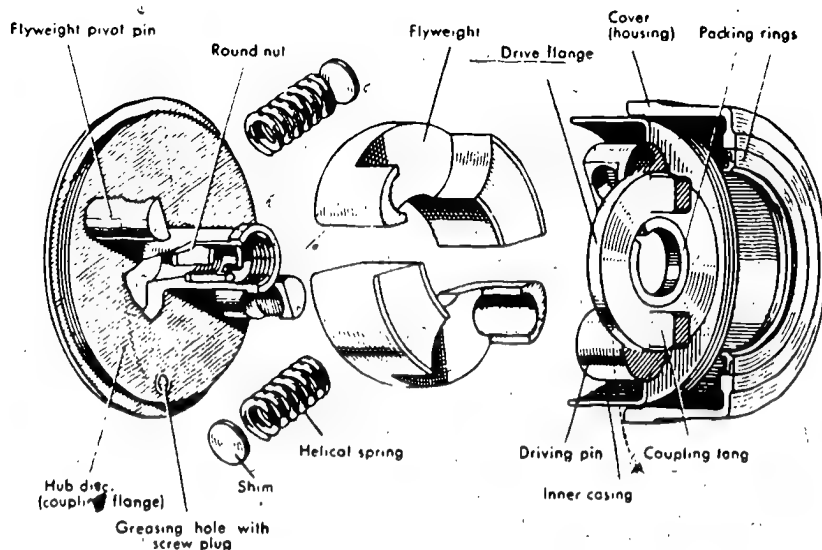

Fig. 5 Components of the EP/SA . . . automatic timing device
B) Working steps for EP/SA . . . devices (Fig. 5)
15. Before the automatic timing device is permanently fixed to the injection pump for service, it must be packed with grease. See Fig. 5 for greasing hole. Use 150 g of Ft 1 v 5 for timing devices with up to 10° advance range, 200 g of Ft 1 v 5 for devices with up to 20° advance range.